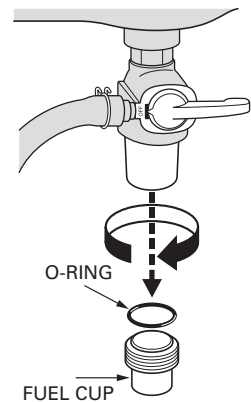

Fig.18
1. Turn the fuel valve to the off position (horizontal to the ground). Remove the sediment cup, and O-ring as shown in Fig.18.